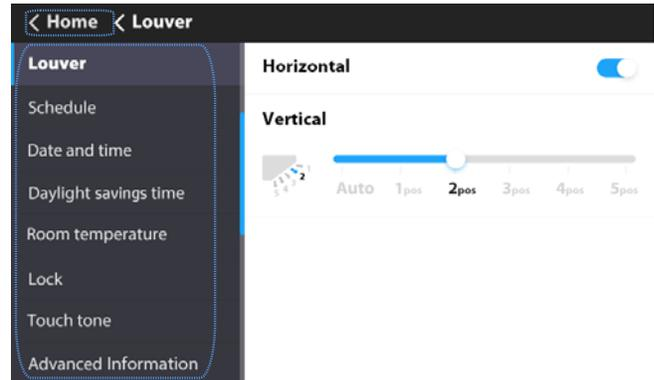

Fig. 16 — Submenu
2. Slide the submenu list up/down to scroll to various settings. See Figure 16.
3. Touch the “HOME” icon at the top of the submenu to return to the homepage. See Figure 16.